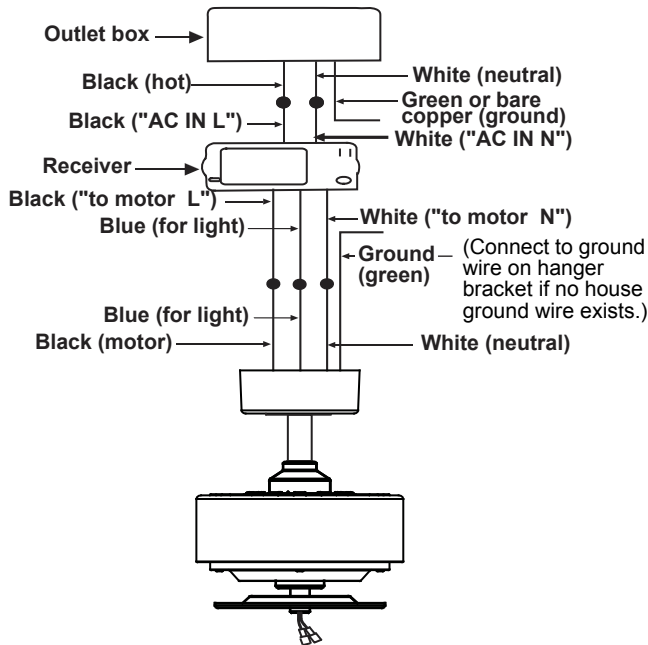

Fig. 15
Step 2. Motor to Receiver Electrical connections: Connect the black wire from the fan to the black wire marked "TO MOTOR L" on the receiver. (Fig. 15)
Step 3. Receiver to House Supply Wires Electrical Connections: Connect the black (hot) wire from the ceiling to the black wire marked "AC IN L" from the receiver. Connect the white (neutral) wire from the ceiling to the white wire marked "AC in N" from the Receiver. Secure the wire connections with the plastic wire nuts provided. (Fig. 15)
Step 4. If your outlet box has a ground wire (green or bare copper) connect it to the fan ground wires; otherwise connect the hanging bracket ground wire to the mounting bracket. Secure the wire connection with a plastic nut provided. After connecting the wires, spread them apart so that the green and white wires are on one side of the outlet box and black and blue wires are on the other side. Carefully tuck the wire connections up into the outlet box. (Fig. 15)